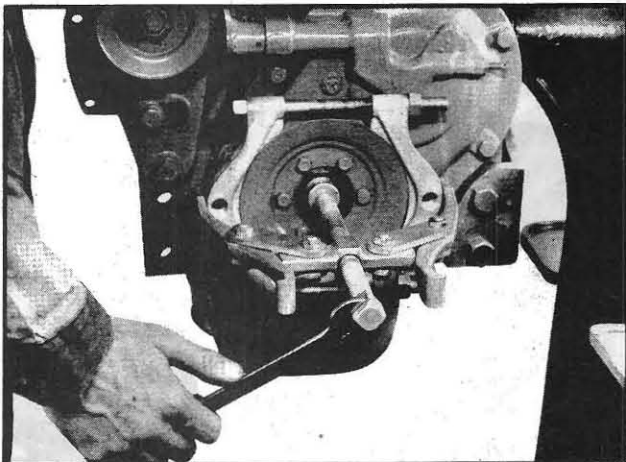

Fig. 89
3. Remove the nut, washer and pulley from the front end of the crankshaft. Use the special V-belt pulley remover as shown in Fig. 89, to prevent damage to the pulley.